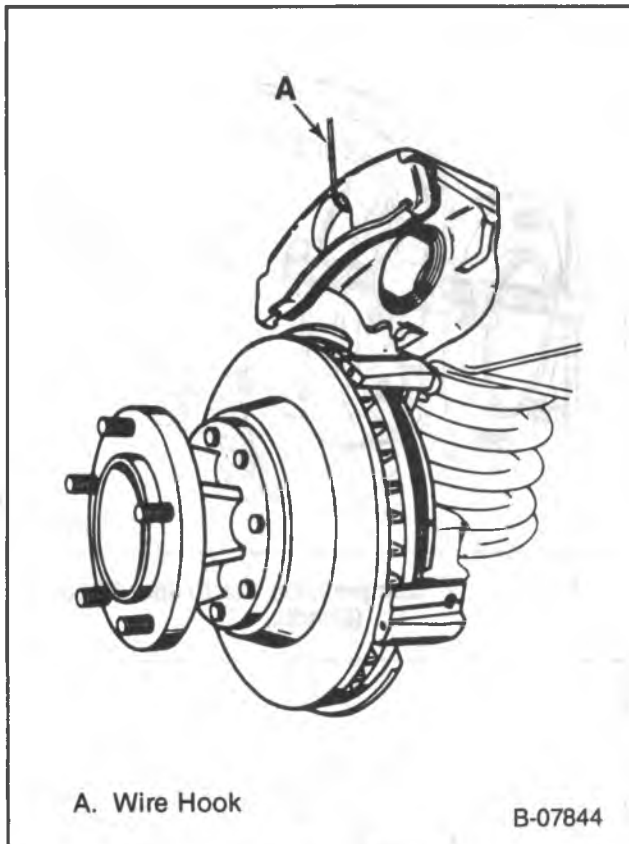

Figure 13 — Suspending the Caliper During Service
- Suspend the caliper from the suspension (figure 13).